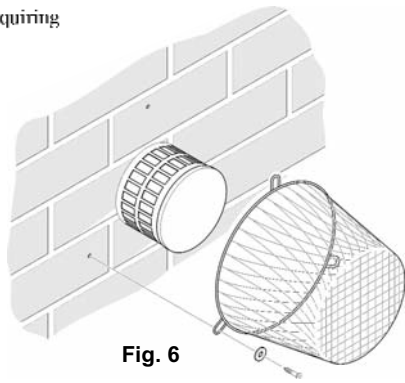

Fig. 6
- c. The guard must be screwed to the wall over the flue terminal and be at least 50mm (2 in) clear of any part of the terminal. A suitable guard is available direct from Baxi Heating, Part No. 080266 (Fig. 6).